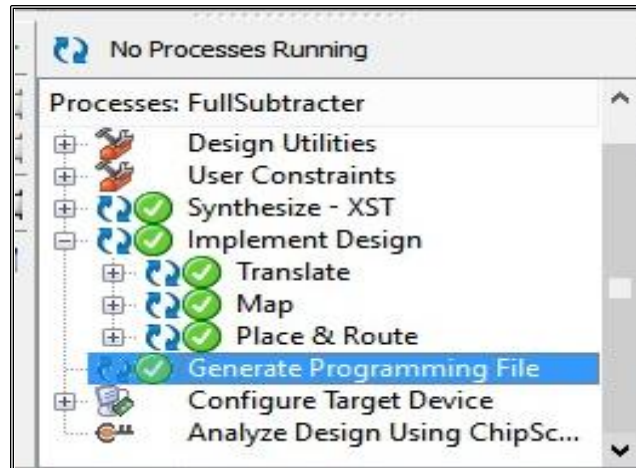

Fig 4.20: Bitstream generation
21. Then we have to generate the programming file. For that, right click **Generate Programming file** and click **Run**. This will generate the bitstream file which will be downloaded to the chip (Fig 4.20).